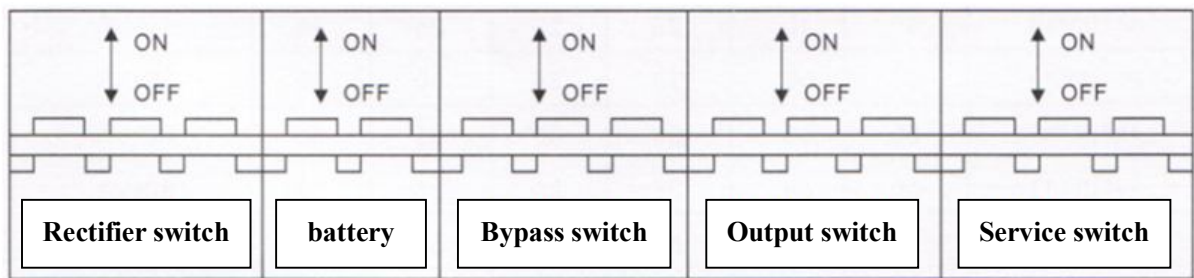

Figure 3
(1) Circuit breaker function, see Figure 3